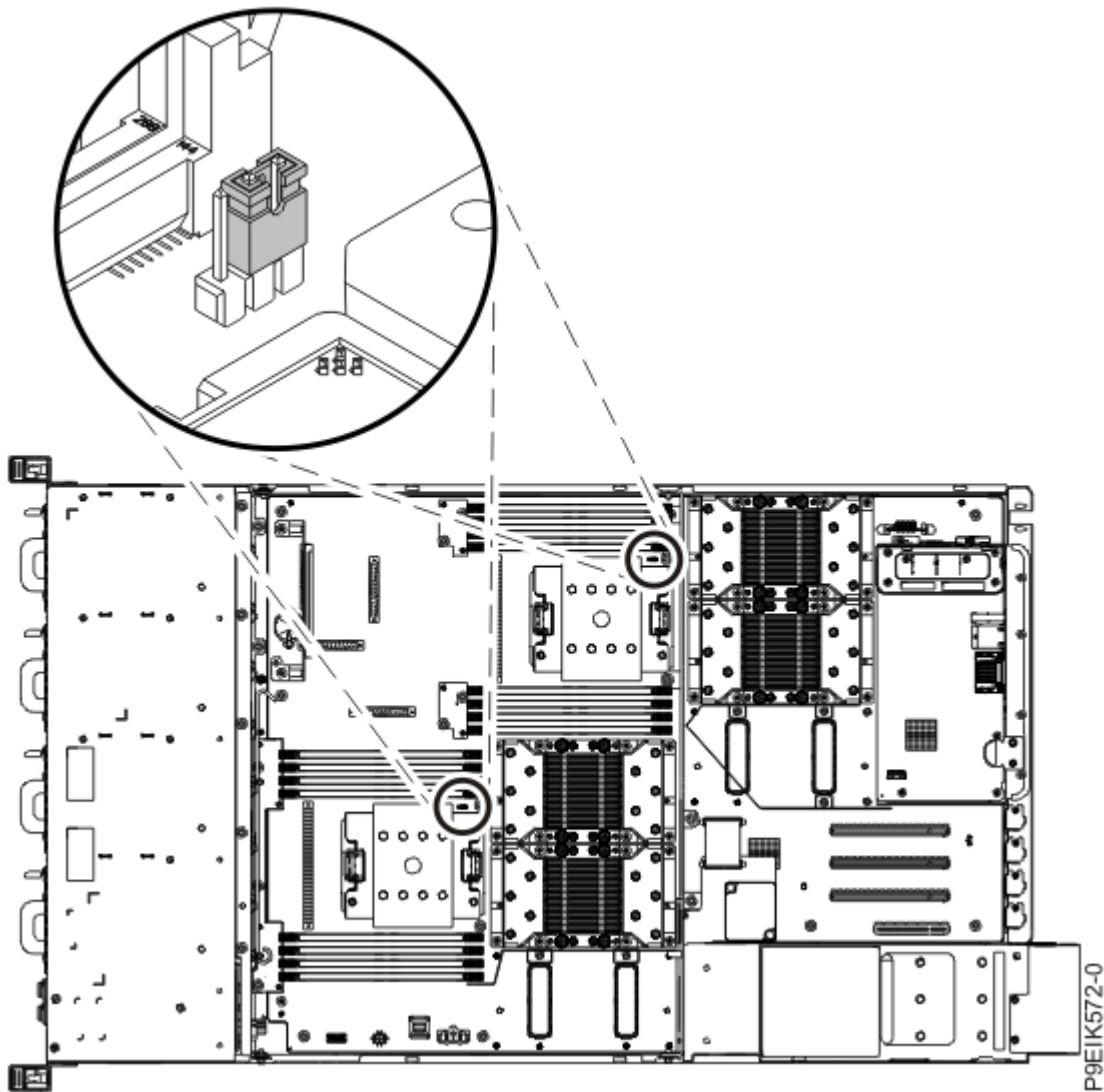

Figure 113. System processor jumper positions
12. Remove the system processor jumpers from the system backplane as shown in Figure 113 on page 142.